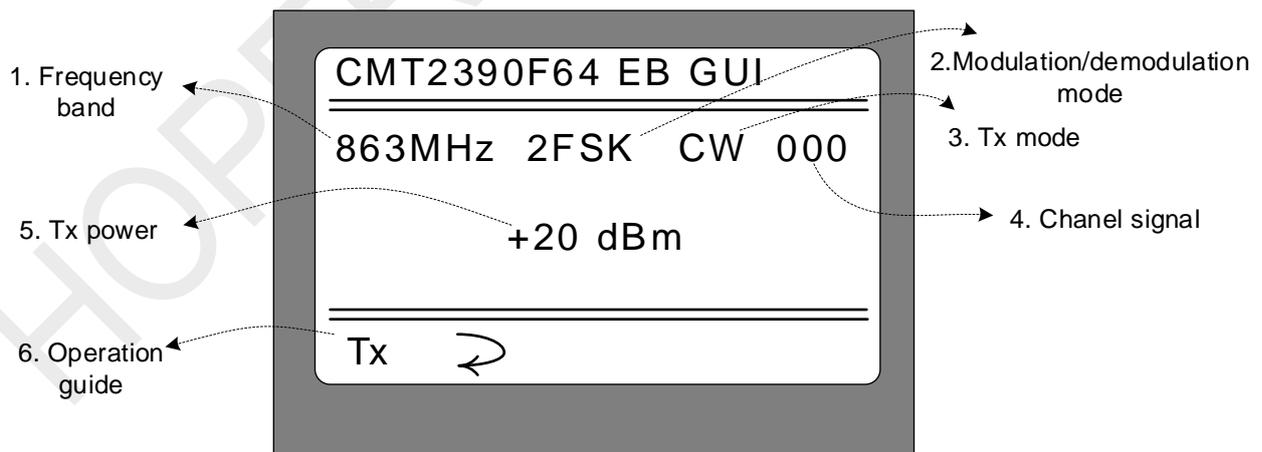

Figure 3-3. CW Tx Working Mode
After selecting "CW Tx" mode, short press S2 "○" in the main menu interface to enter the CW Tx working mode, as shown in Figure 3-3 below.
1. Under this interface, short press S2 again to stop the current carrier transmission mode and return to the upper menu (as shown in Figure 3-3). That is, the carrier transmission can be alternately enabled and stopped by short pressing S2.